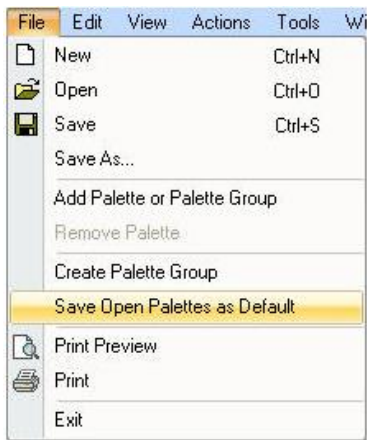

Figure 114. File Menu – Save Open Palettes as Defaults
4. To save all palettes displayed on the palette bar as default palettes, select **Save Open Palettes as Default** from the **File** menu, as shown in Figure 114.